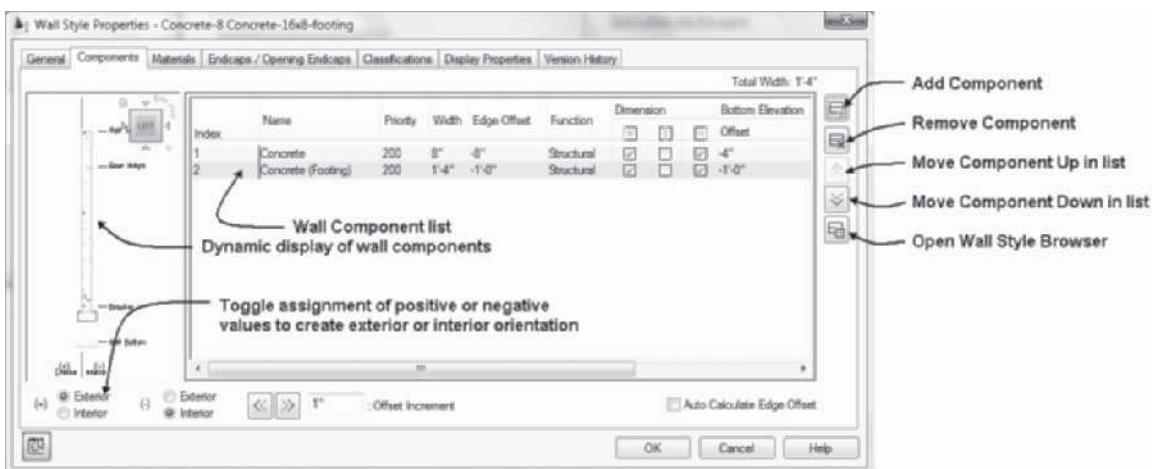
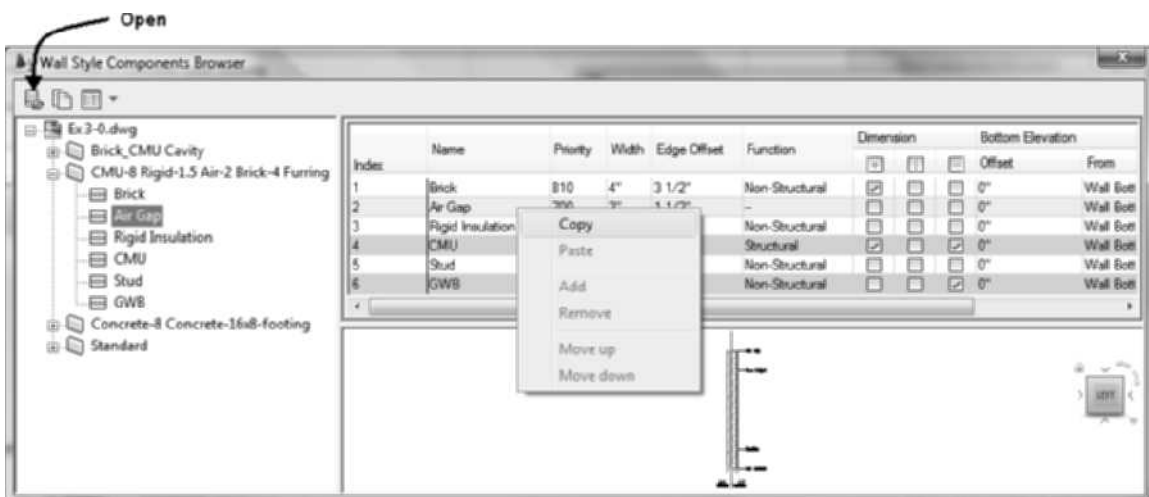

FIGURE 3.12 Components tab of the Wall Style Properties dialog box
FIGURE 3.13 Components from wall styles listed in the Wall Style Components Browser
8. Choose the Components tab to review the settings of the components, which define the wall style. The left pane provides a dynamic view of the wall style as shown in Figure 3.12.
10. In this step, you will move a component up within the list of components. Choose Index 2 column to select the Concrete (Footing) component, and choose the Move Component Up in List button as shown at right in Figure 3.12.
11. Choose Index 1 component to reselect Concrete (Footing), then choose Move Component Down button as shown in Figure 3.12.
12. Note the wall style is defined with the exterior of the wall components located at left or in the positive direction as shown in the lower-left corner of Figure 3.12.
13. Choose the Open Wall Style Browser button located at right in Figure 3.12 to open the Wall Style Component Browser as shown in Figure 3.13.
14. You may choose the **Open drawing** button shown in Figure 3.13 of the Wall Style Components Browser to open files for the import of wall components into the current style. The Wall Style Components Browser of Figure 3.13 lists the wall styles of the current drawing. Therefore, to import a component, choose the + sign of the left pane to expand the CMU-8 Rigid-1.5 Air-2 Brick-4 Furring [CMU-190 Rigid-038 Air-050 Brick-090 Furring] wall style. Select the Air Gap component, right-click, and choose **Copy**. Move the cursor to right pane of the Components tab of the Wall Style Properties palette, right-click, and choose Paste to add this component into the current wall style.
15. To remove the Air Gap component, select the component and then choose Remove Component button shown at right in the Components tab in Figure 3.12.
16. Select Index 1 to choose the Concrete component, and choose the Add Component button shown at right in Figure 3.12 to copy the Concrete component. There are now three Index numbers that identify each component whereas the remaining columns define the size and location of the component.